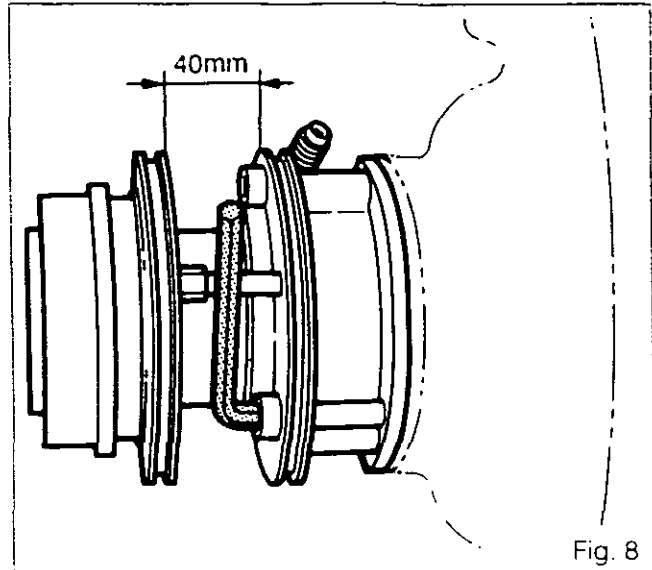
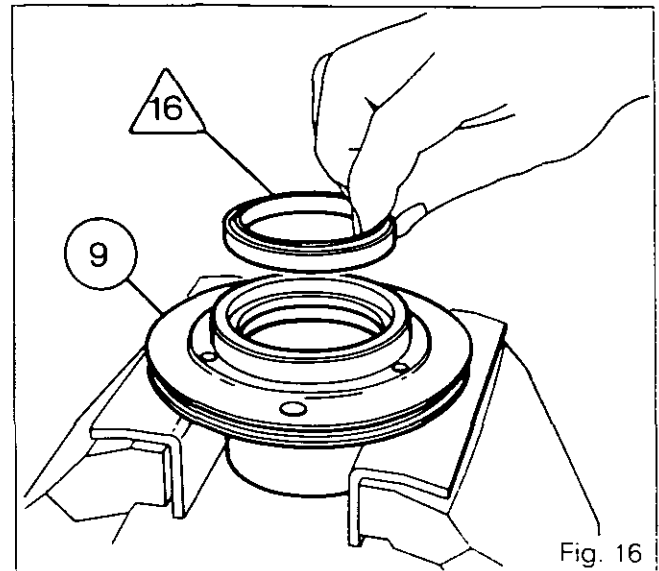

Fig. 8
Fig. 16
#### Method (Fig.8)
24. Using a suitable arrangement to support the bearing carrier, press in the scraper ring /16\ (Figs. 16 and 17).
27. Fit the rod (18) after coating it with Loctite 241. Tighten to a torque of 25-35 Nm.
28. Lubricate the guide (17), the seal (14) and the release bearing carrier (9).
29. Position the "O" ring (13) on the guide.
30. Assemble the cylinder (11) with the guide (17).
31. Refit the bolts (12) and (12A).
32. Press the release bearing carrier (9) into the cylinder (11) so as to leave a gap of 40 mm to allow access for the Allen keys to tighten bolts (12) and (12A) (Fig. 8).
33. Screw on the unions (22) and (23).
35. Coat the bolts (12) and (12A) with Loctite 241. Using the short Allen keys, tighten to a torque of:
36. Fit the boot (10). Refit the bleed pipe (24) and supply pipe (21).